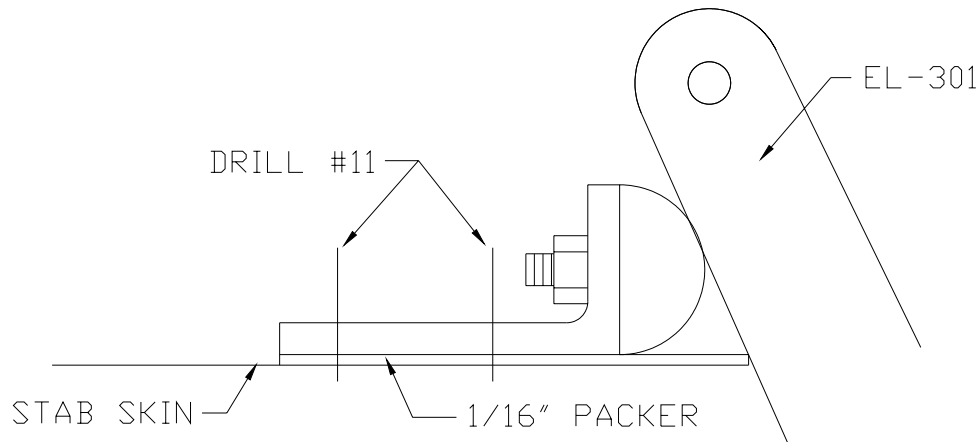

Figure 3.10.3
- 6) Mark a line down the center of the flange on the Stop Attach angle that goes on top of the Stabilizer skin. Layout and drill two #11 holes through the angle. Place the angle and the packer back on the Stabilizer skin and drill #11 through. Figure 3.10.3.